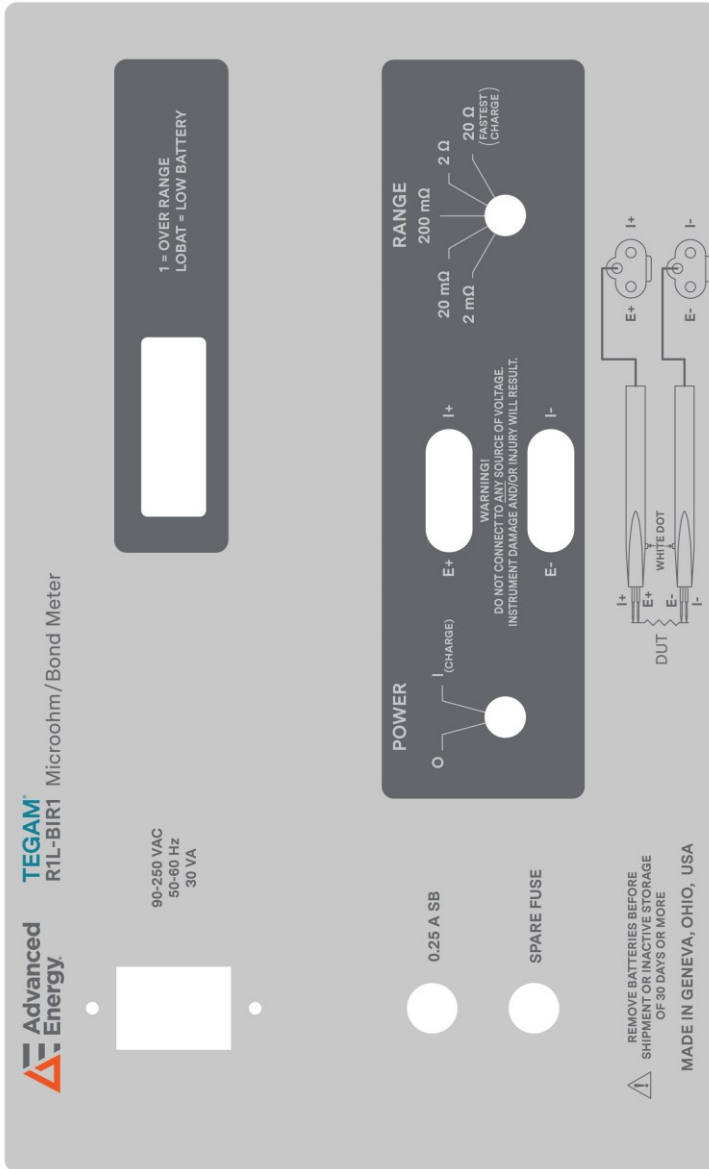

Figure 2: Front Panel Controls
- Figure 2: Front Panel Controls 1-3